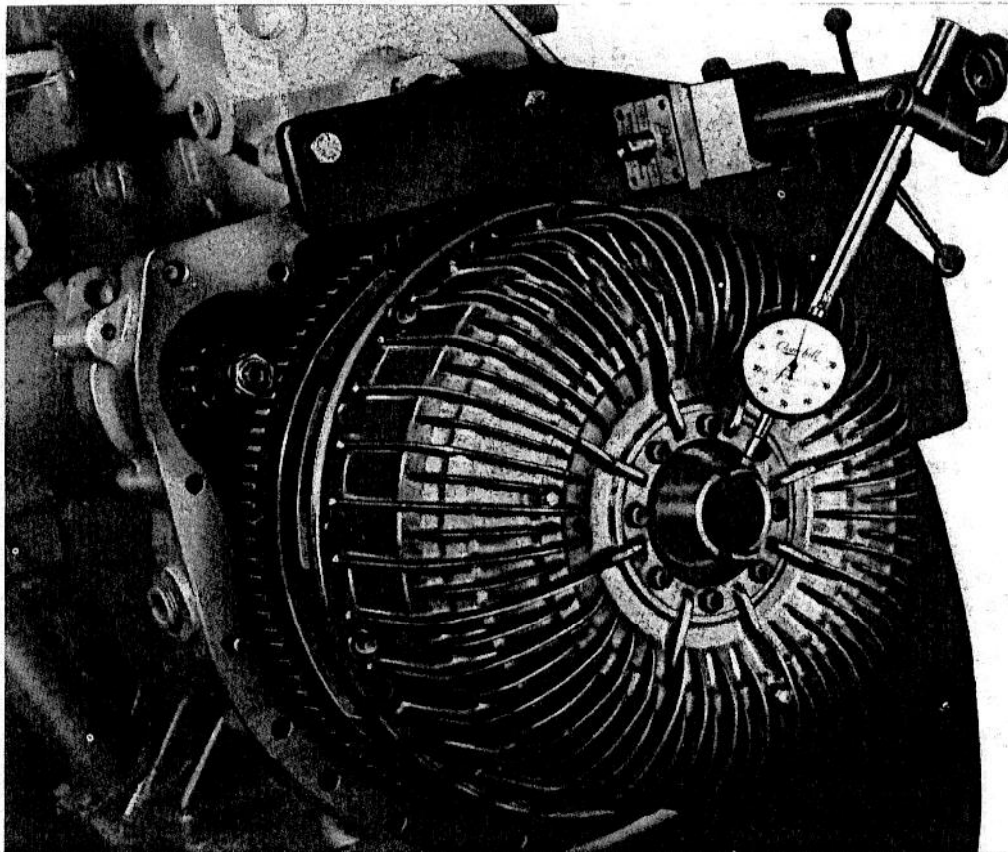

FIG. 20
1. (Fig. 20) Fix a dial indicator base to the engine backplate.